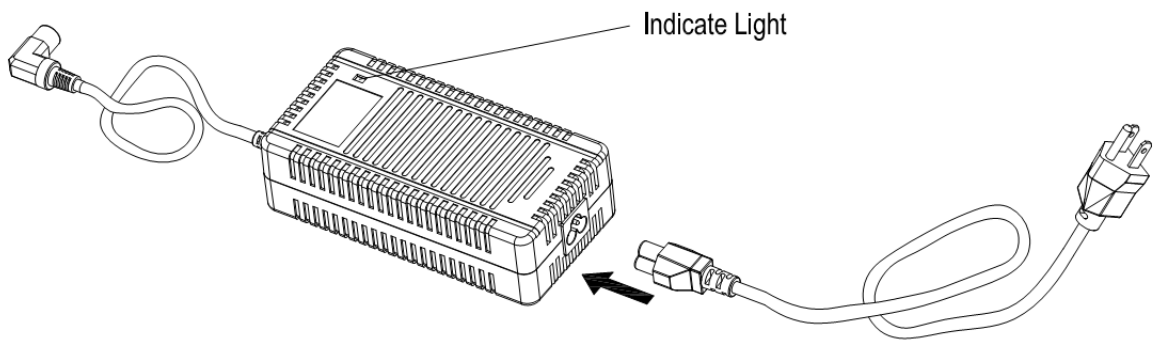

Fig 21
3. Plug the charger's power cord into the charger (Fig. 21).